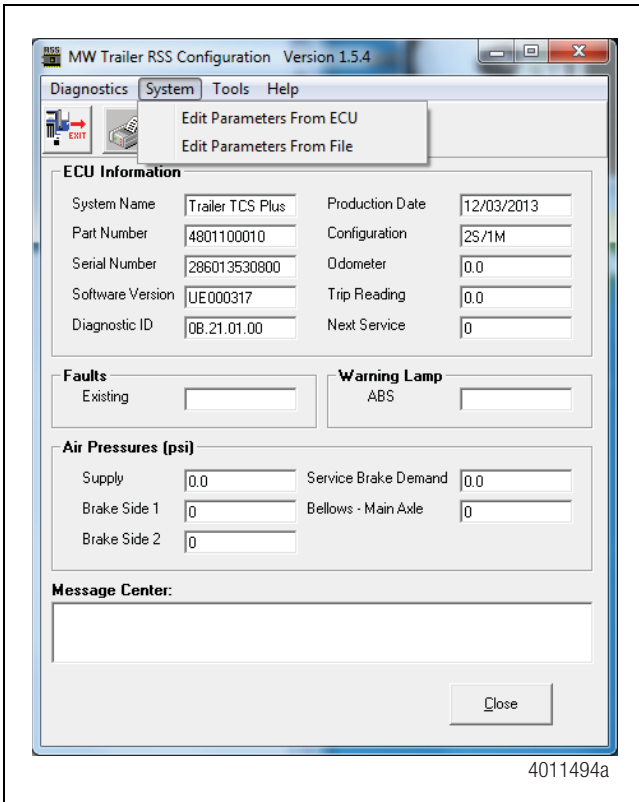

Figure 3
1. Enter the Roll Stability portion of TOOLBOX™ Software. From the menu bar at the top, choose the **System** pull-down menu and select **Edit Parameters From ECU**. Figure 3.